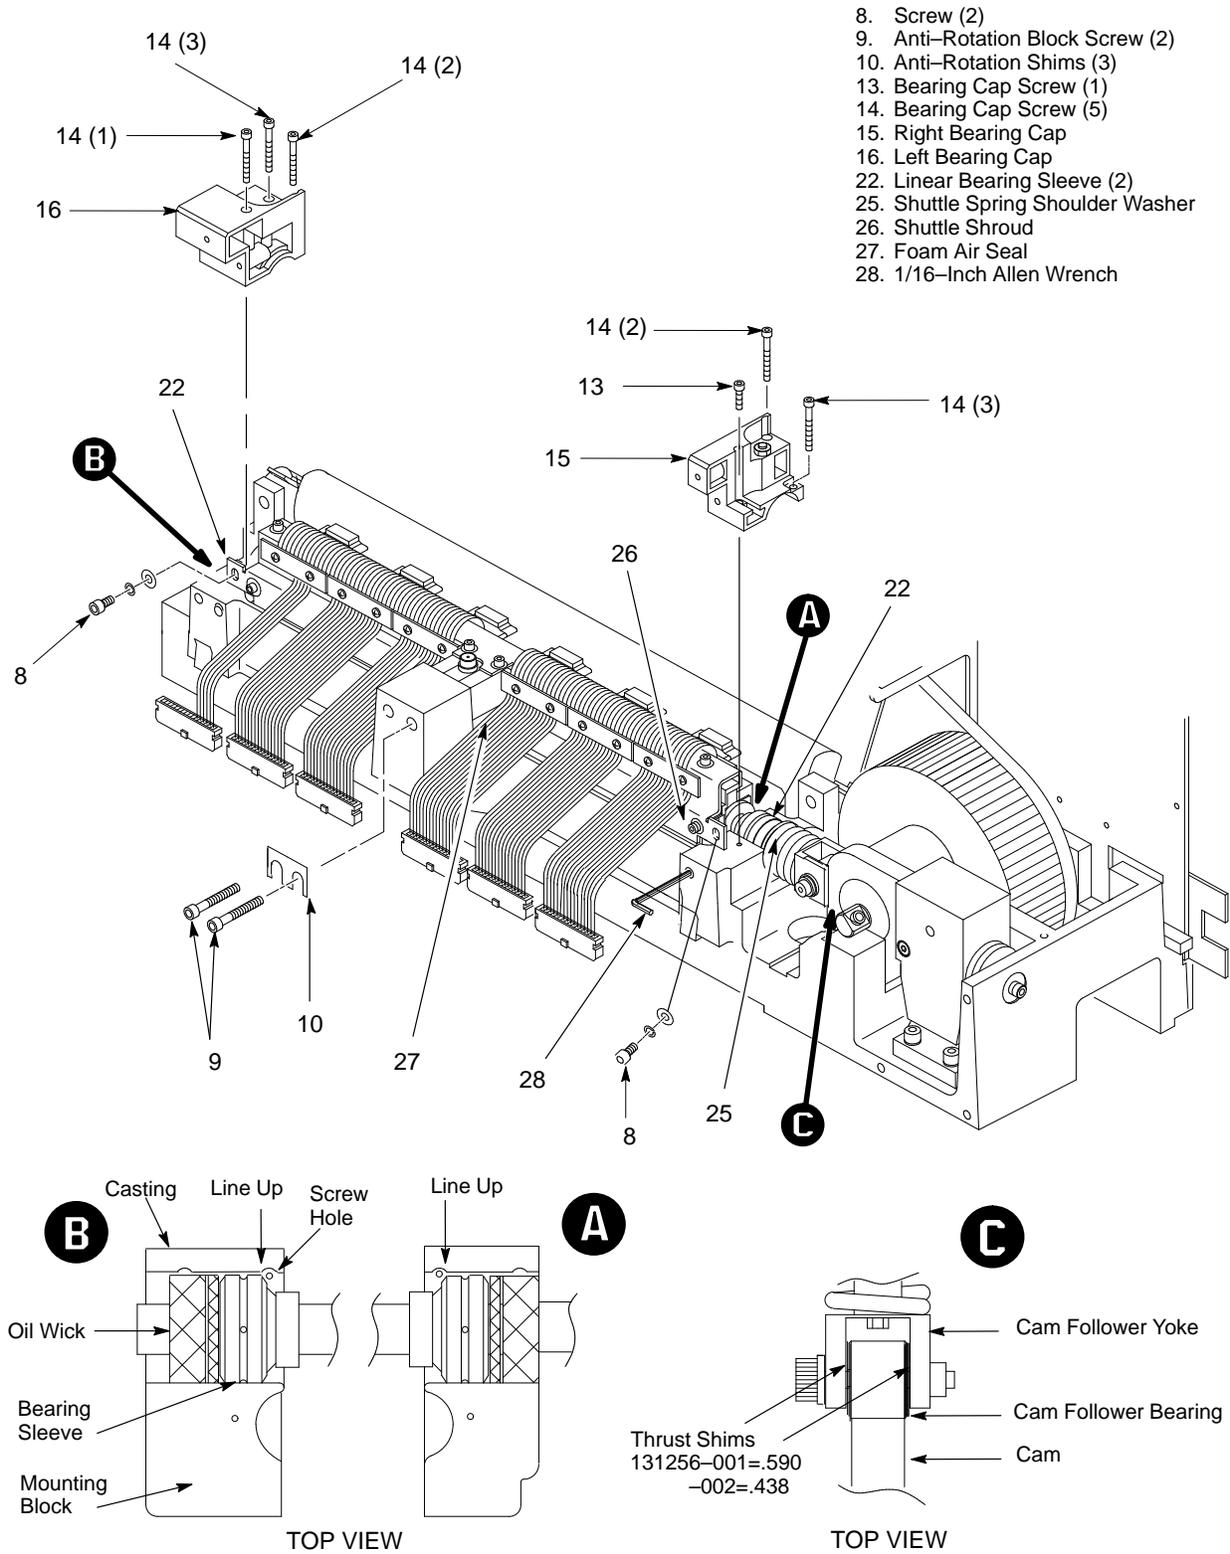

Figure 6-4. Installing Hammer Bank
13. Try to fit a .004-inch feeler gauge (Figure 6-5C, item 33) between the side of the cam and the alignment tool at the top and bottom of the tool. If the gauge fits in the top space (Figure 6-5C, left), add anti-rotation block shims (Figure 6-4, item 10). If there is clearance at the bottom (Figure 6-5C, right), remove shims. (Adding or removing one .005-inch shim will normally correct the alignment.)